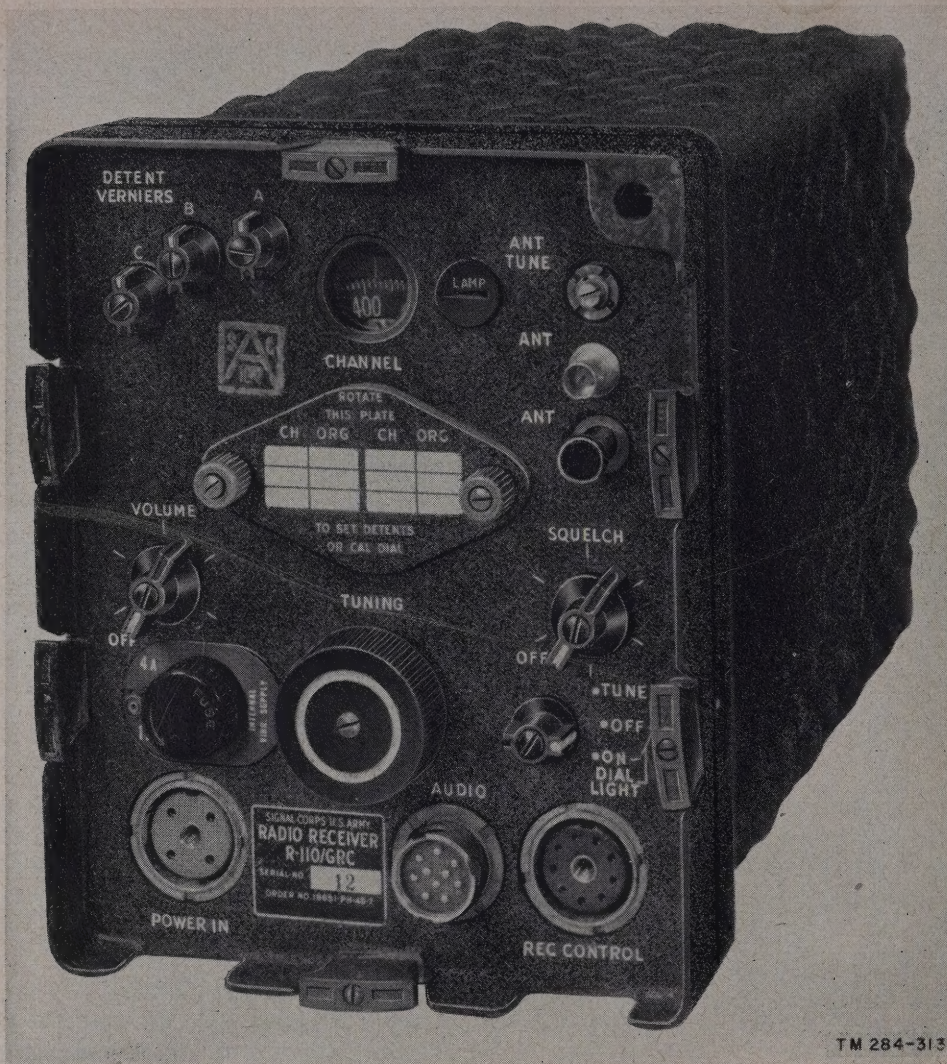

Figure 8. Radio Receiver R-110/GRC.
a. Radio Receivers R-108/GRC, R-109/GRC, and R-110/GRC are used as auxiliary receivers in Radio Sets AN/GRC-3, -5, and -7, respectively. The auxiliary receiver is used as an additional monitoring receiver. The receivers are very similar in structure, function, and detailed circuit and mechanical arrangement; they differ only in their operating frequency ranges and in those components which determine the frequency range. Hence, Radio Receiver R-110/GRC (fig. 8) is similar externally to the other receivers except for the calibrations of the tuning dial. Receiver characteristics pertinent to system operation are listed in paragraph 5. Detailed information on the receivers is contained in TM 11-898.
c. Structurally, the receivers are panel-chassis assemblies inclosed in a metal case (fig. 8). The bottom of the case is fitted with channel rails which are used to secure the unit to the vehicular mounting. When the case is removed, the replaceable parts on the receiver chassis are made accessible (figs. 85 and 86).